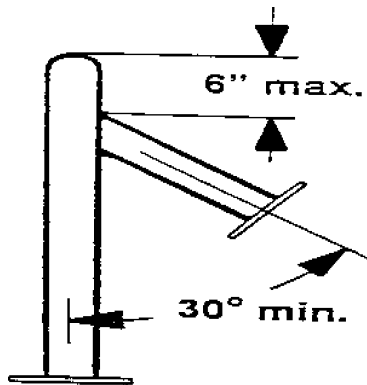

Figure 2
B.5.1 Roll bar hoops shall have two (2) fore/aft braces with tubing diameter and wall thickness as listed in B.2.2. The fore/aft braces shall be attached as close as possible to the top of but not more than six (6) inches below the top of the roll bar hoop. The included angle between the fore/aft brace and the vertical part of the roll bar hoop shall be no less than 30 degrees. The fore/aft braces shall have no bends. (See Figure 2.)